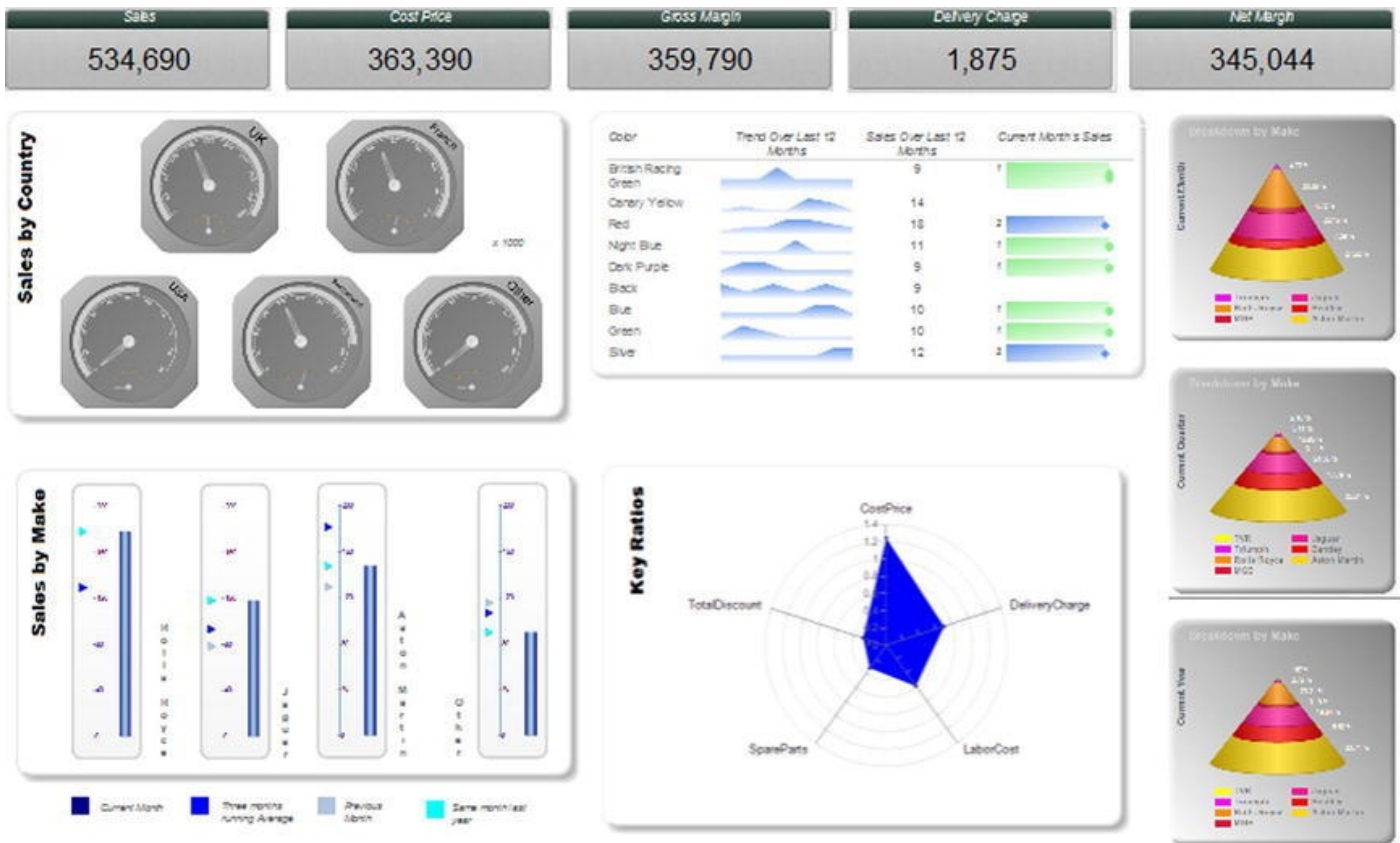

Figure 7-3. An initial SSRS dashboard
Now that you have seen some of the basic techniques needed to control object placement, I suggest that you make another dashboard to learn how to present more complex business intelligence reports using SSRS. This dashboard is `DashboardMonthly` in the sample application, and it looks like Figure 7-3.
This set of charts will now look like the rightmost visualization (the three pyramid charts one above the other) in Figure 7-3.
8. Set the filter for each gauge to the relevant element. In this example, it means selecting a country for the filter. The country names are indicated in Figure 7-3 on the top right of each gauge.